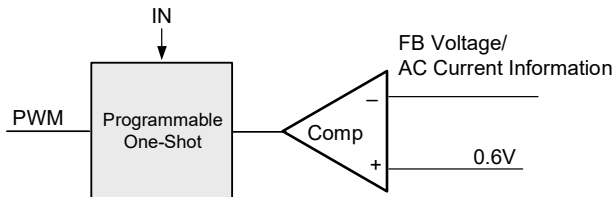

Figure 3. Simplified Control Schematic of AOZ2262NQL-11
The simplified control schematic is shown in Figure. 3. The high-side switch on-time is determined solely by a one-shot whose pulse width can be programmed by one external resistor and is inversely proportional to input voltage (IN). The one-shot is triggered when the internal 0.6V is higher than the combined information of FB voltage and the AC current information of inductor, which is processed and obtained through the sensed lower-side MOSFET current once it turns-on. The added AC current information can help the stability of constant-on time control even with pure ceramic output capacitors, which have very low ESR. The AC current information has no DC offset, which does not cause offset with output load change, which is fundamentally different from other V^2 constant-on time control schemes.